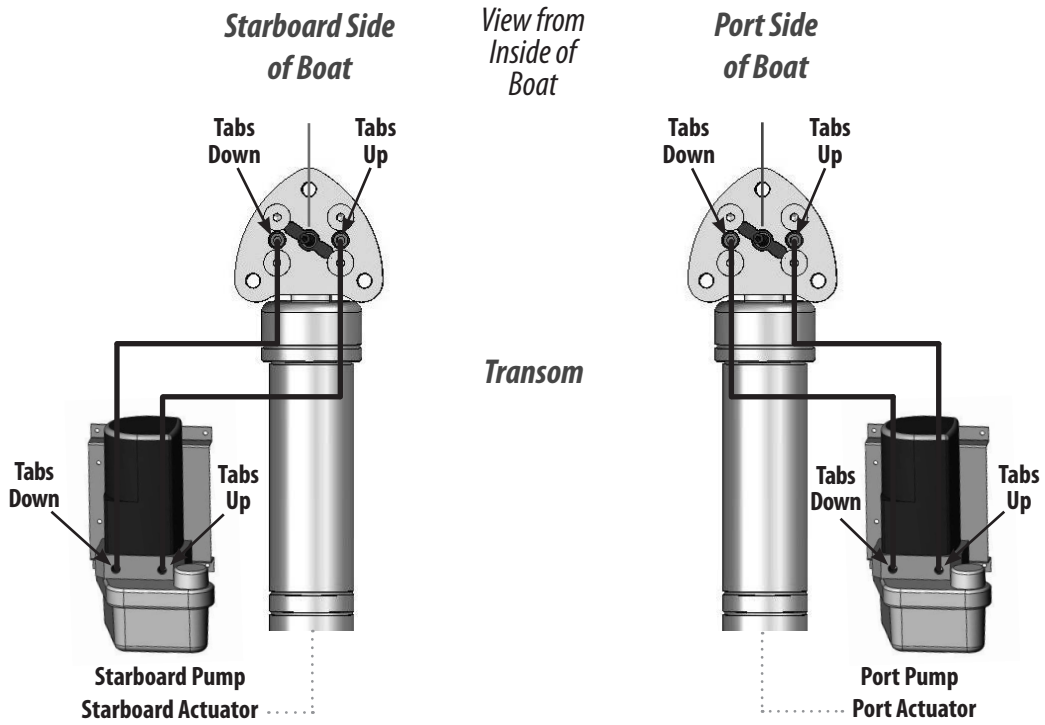
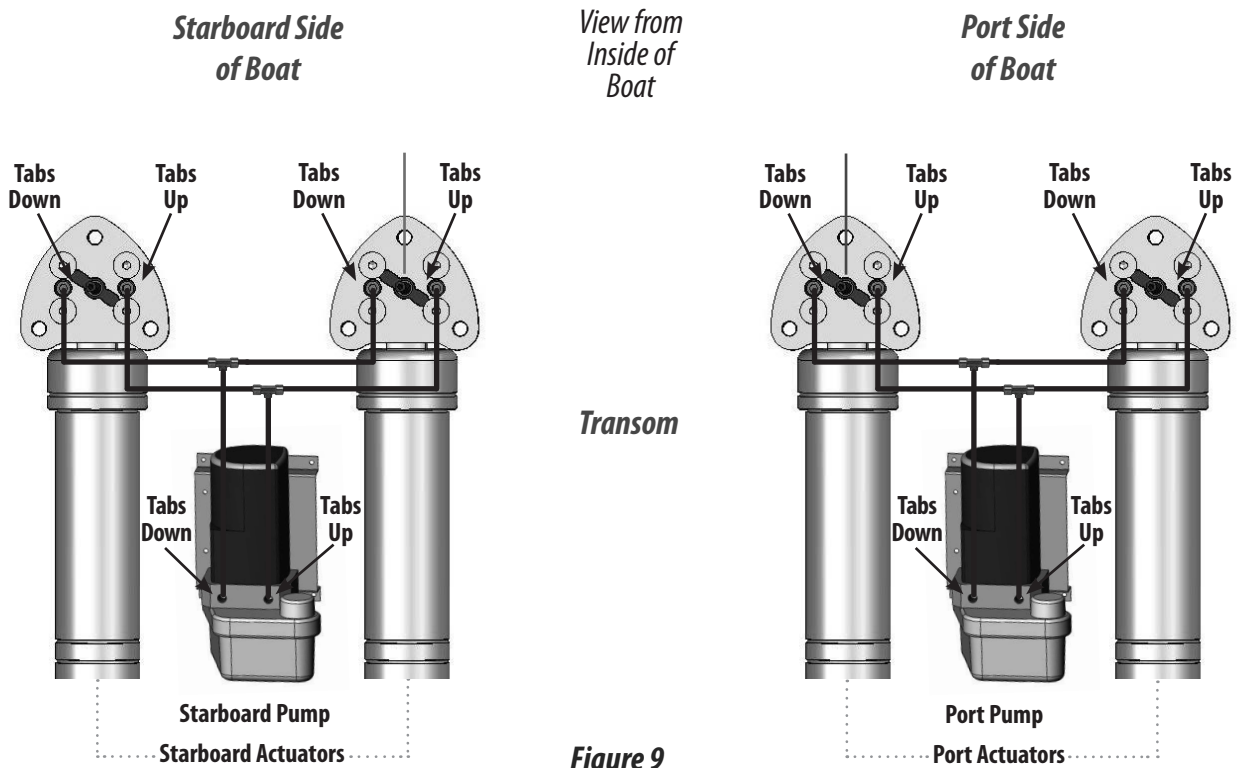

Figure 8
Figure 9
**Single Actuator System:** Run hydraulic tubing between the actuators and cut to length. Secure tubing as needed. (See next page, Figure 8 for Single Actuator Systems.) **Dual Actuator Systems:** Run tubing from the Oildyne Hydraulic Power Units to the desired Brass Line-T location as shown. Secure as required. (See Figure 9 for Dual Actuator Systems.) Use tube bending clips at desired 90° bends in tubing to prevent kinking.